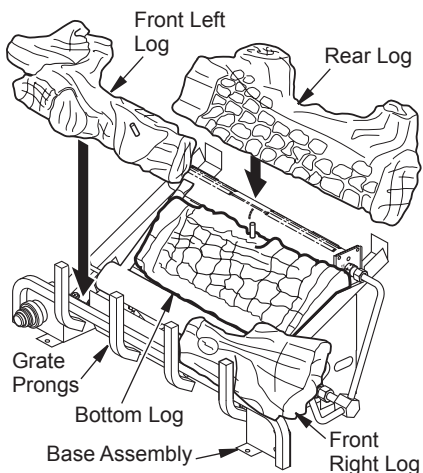

Figure 21 - Installing Log Set
1. Place bottom log in center of the base assembly as shown in Figure 21.
2. Rest rear log in back corner sections of base assembly as shown in Figure 21. Make sure log is completely vertical and not leaning in toward burner where flame will touch the log.
3. Position front right log against right side of grate prongs (see Figure 21).
4. Position front left log against left side of grate prongs (see Figure 21).